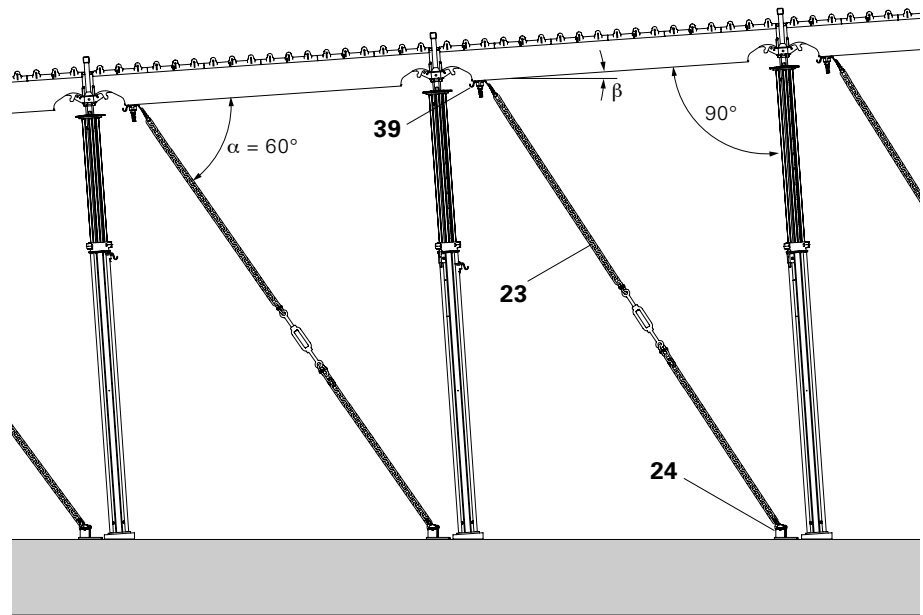

Fig. A11.01
The Main Beam SLT must be positioned in the direction of the slab inclination. Align Props with Drophead SFK at right-angles to the Main Beams SLT 225. The use with Prophead SSK is also possible. (Fig. A11.01)
2. Mount Base Plate (24) on a sufficiently load-bearing surface area, e.g. using PERI Anchor Bolt 14/20x130, Item no. 124777. Take into consideration the Technical Data Sheet!
3. Screw on Tension Sleeve SAO (39) to Main Beam SLT.
4. Attach Anchor Chain (23) to Tension Sleeve SAO (39).
6. Tension Anchor Chain. (Fig. A11.01)